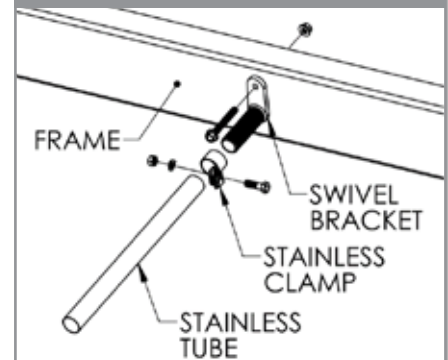

FIGURE 8
- E. Place the (10003106A) plastic end cap into the end of the stainless tube. (See Figure 8)